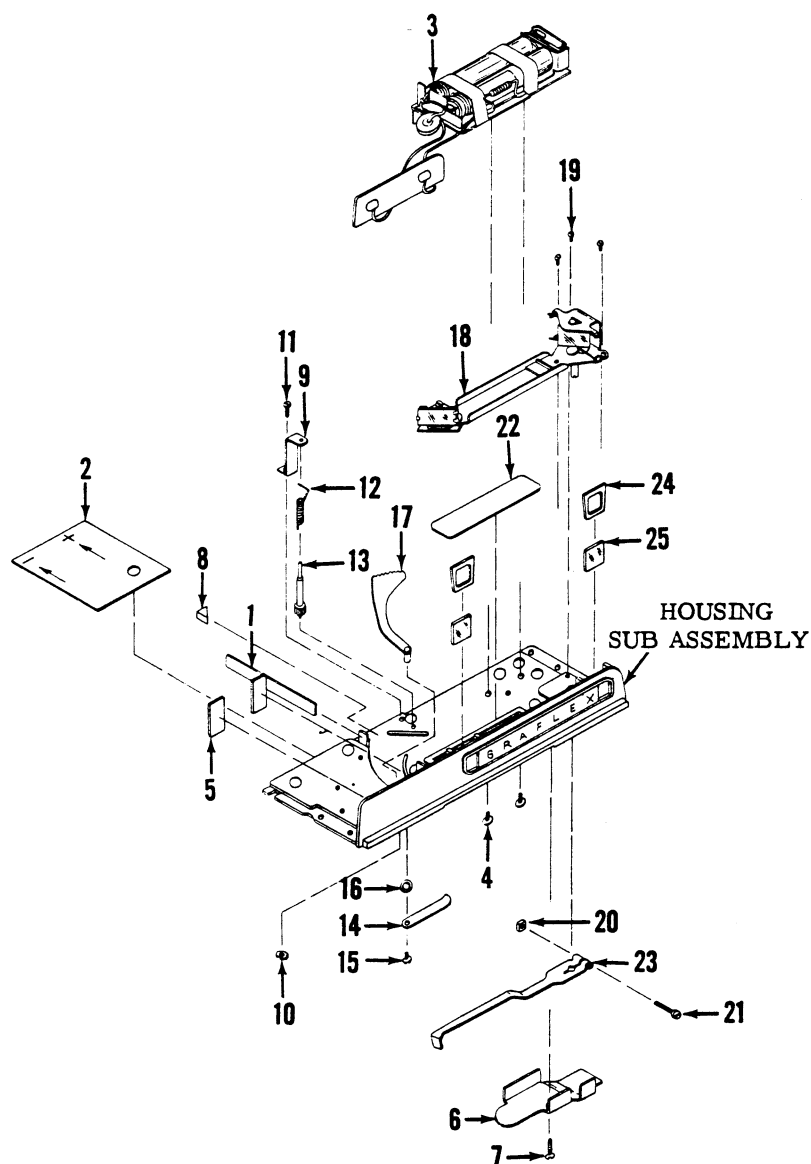

Figure 11. RANGEFINDER HOUSING COMPLETE
**NOTE:** To insure trouble free operation, remove indices 1, 2, 3 & 4 and return rangefinder housing assembly to the nearest Graflex Service Department. An alternate rangefinder housing assembly (at nominal charge), with critical mirror and lever adjustments accomplished, will be returned. A focusing scale indicator (Figure 9 - 7) and guard (Figure 11 - 2) will also be furnished for installation. Use Cat. #9472 in correspondence when using the exchange program for rangefinder housing assembly.